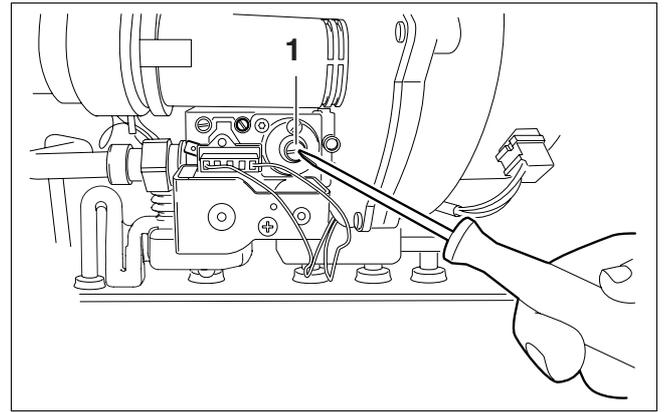

Fig. 8 Setting the gas/air ratio
- If the gas/air ratio is not correct it can be adjusted using the adjustment screw (fig. 8, pos. 1). The adjustment screw is located behind the cover screw.